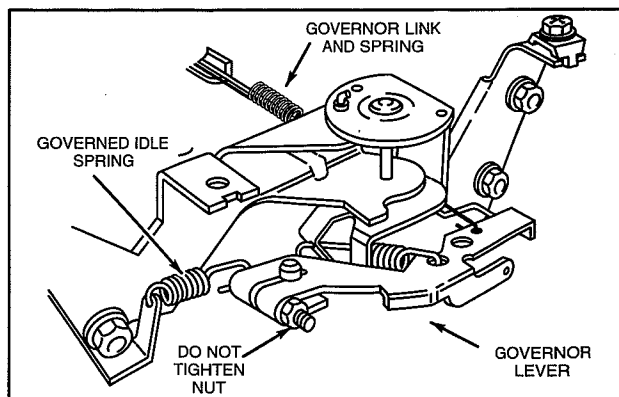

Fig. 31 – Install Governor Lever
6. Reassemble governor lever to shaft, Fig. 31.